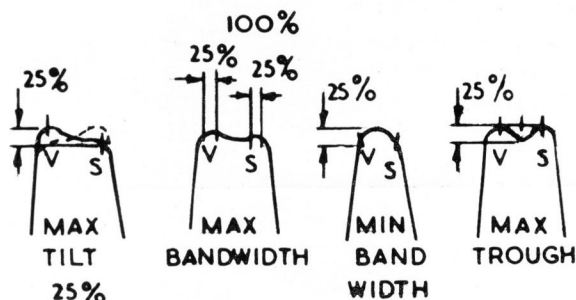

Figure 5.
Connect the vertical input of the c.r.o. direct to TP2T on the tuner with a shielded lead. The c.r.o. should have suitable sensitivity (approximately 0.03 volts p-p) for the required deflection. If an appropriate c.r.o. is not available, an amplifier with good low frequency response may be used, but care should be taken that hum voltages are not visible on the c.r.o. as indicated by a curved reference line on the c.r.o. with sweep blanking on. If this occurs it will be necessary to bypass the H.T. with an electrolytic capacitor to avoid B+ hum. Switch to each channel and roughly check its response against those shown in figure 5. If Channel 5 is no worse than the majority of the others, commence alignment at Channel 5. Note: If Channel 5 is materially worse than the other channels, replace the Channel 5 strip with a standard one and re-align the tuner as in Complete Step by Step Alignment. At the completion of the alignment, replace the standard Channel 5 strip with the original one and adjust the windings to give the correct response. The position of Channel 5 is indicated when the mark on one of the spindle flats is pointing to the 5 o'clock position viewing the tuner mounted normally on its base plate.
Adjust C8T and C12T for correct curve shape and position as shown in figure 5. Check that the injection voltage measured at TP1 is between 1.5 and 5 volts, using a Voltomyst with a 100K ohm resistor in series with the d.c. probe.
Check all other channels for response and correct oscillator frequency. If the curves are slightly out of tolerance (figure 5), re-adjust C8T and C12T for compromise setting for all channels. If the response curve for any particular channel is well outside the limits, remove that coil-strip and examine it for damage or mal-adjustment. Should mal-adjustment be in evidence, re-adjust for correct response by carefully spreading or closing the winding in the appropriate section.
3. Connect the c.r.o. to TP2T and adjust Channel 5 oscillator frequency with the Fine Tuning control for the correct frequency. Set bias to zero and pattern height to 10 divisions on the c.r.o. Remove 10 db of attenuation and set bias to give 10 divisions on the c.r.o. Adjust the plate and grid trimmers (C8T, C12T) to give a symmetrical response with correct marker positions as shown in figure 5.